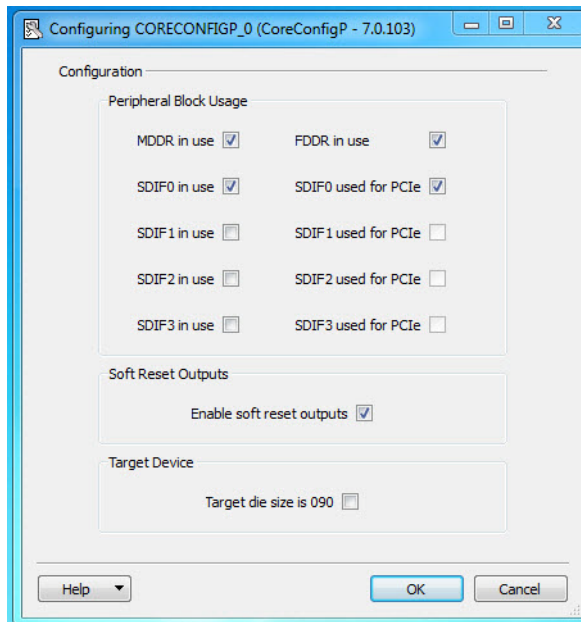

Figure 3-3 • CoreConfigP Dialog Box
3. Configure the core to specify which peripherals need to be initialized (Figure 3-3)